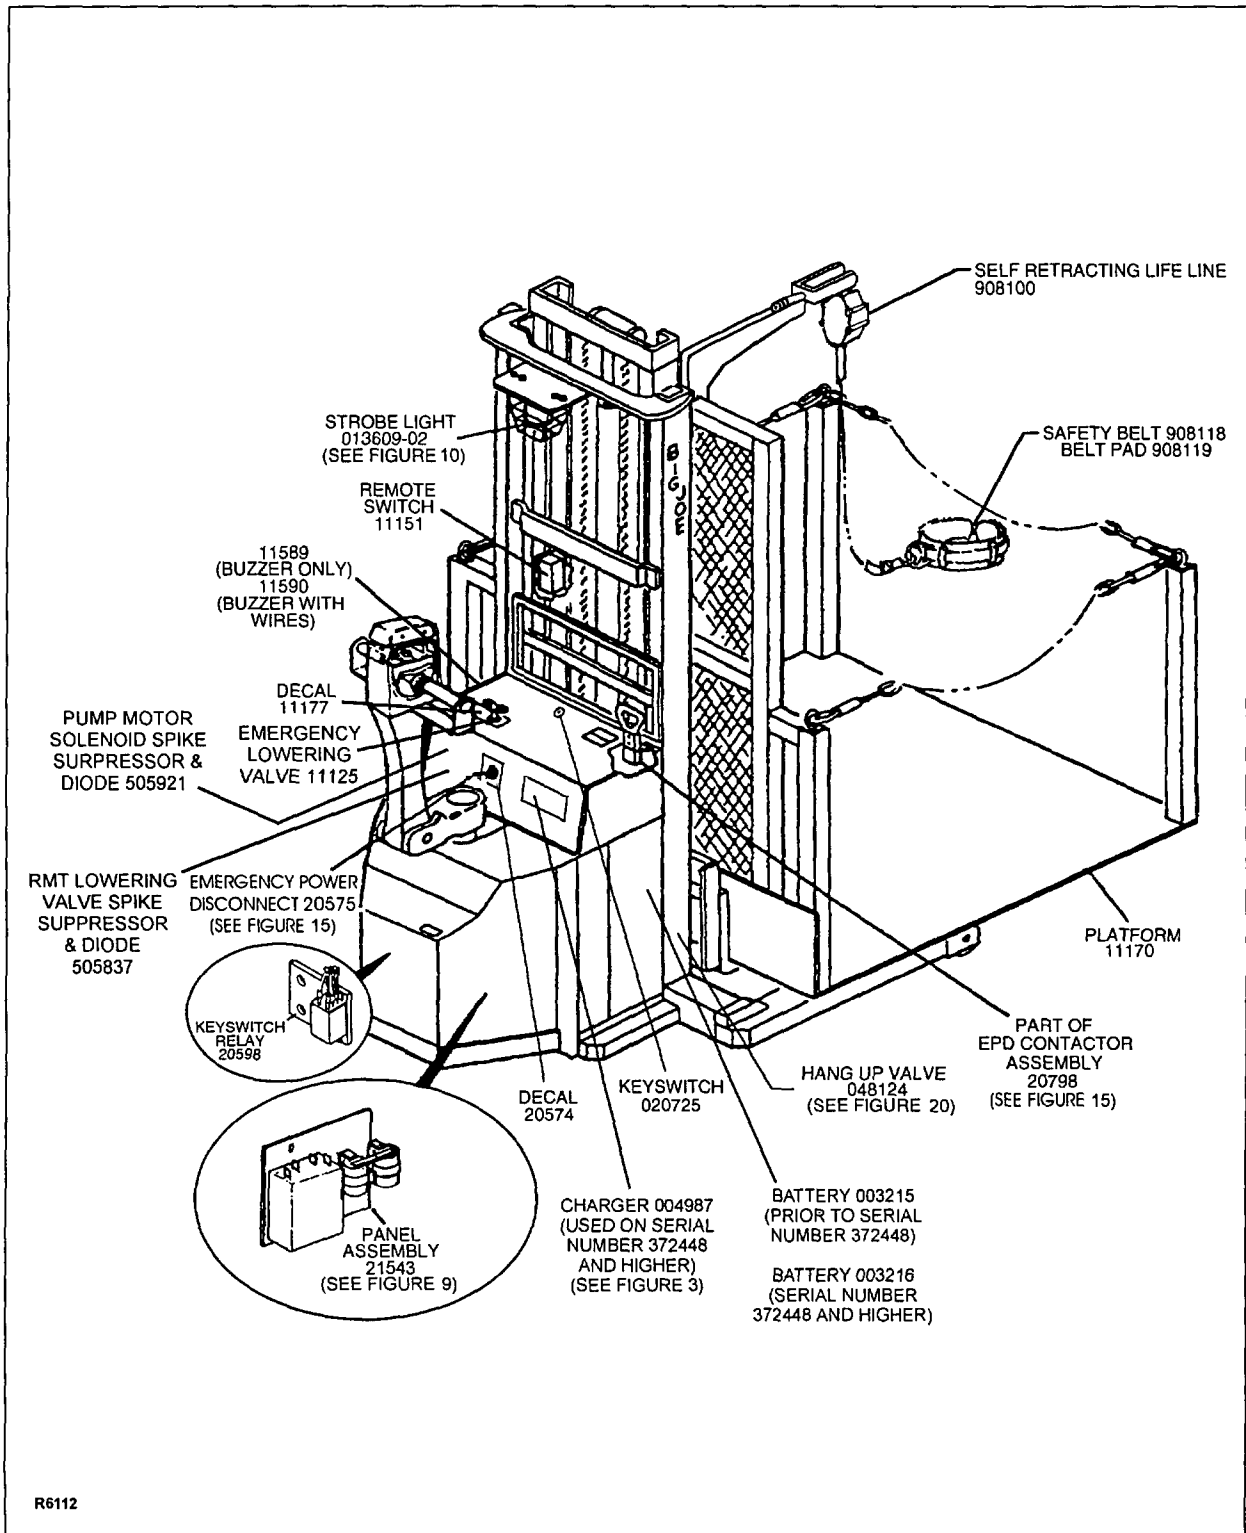
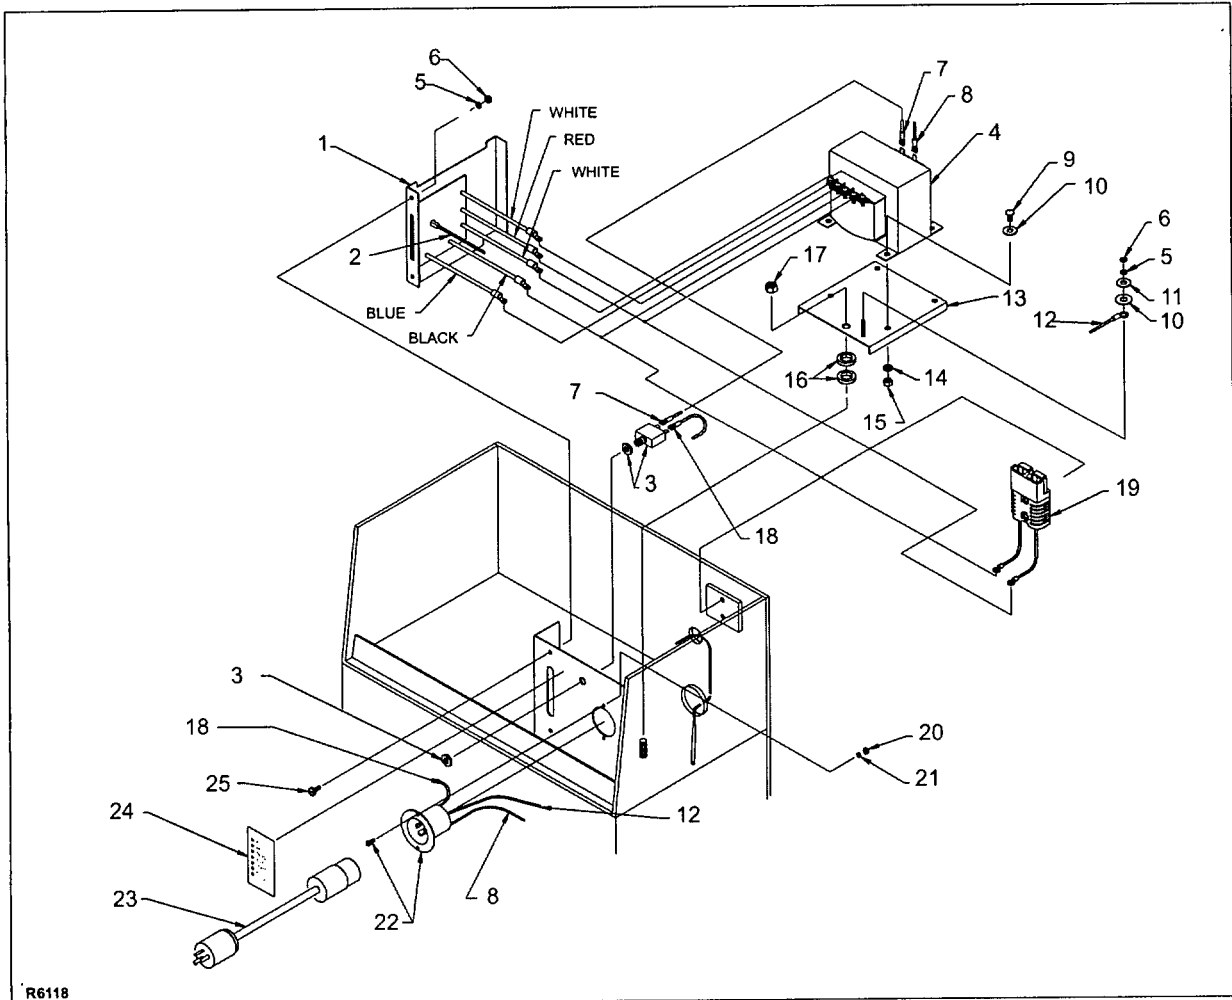

Figure 1. Location of Special Items
Figure 3. Battery Charger
A remote lift, lower and stop switch is located on the platform as shown in Figure 1. An emergency power disconnect, keyswitch and an emergency lowering valve are located on the rear of the truck as shown in Figure 1.
4.3. Special Operating Information (Figure 1)
Refer to the basic PDI Manual No. 901355 for all general service information. Refer to Figure 1 for the location and identification of items not listed in the basic manual.
The 004987 battery charger is located inside the cover in front of the steering arm as shown in Figure 1. Refer to Figure 3 for disassembly and part number information.